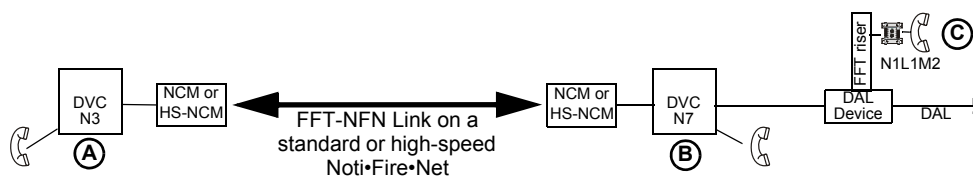

Figure B.2 FFT-NFN Communication Links Example 1
Refer to Figures B.2 and B.3 for this example.
2. The operator at (**A**) presses the point button, programmed as shown in Figure B.2, turning on the point. The point active LEDs will light steady on, and the yellow LEDs will go off. Communication is established between (**C**) and the local telephone at (**A**).
1. A firefighter jacks in at (C). Point 1 rings at (A). Both LEDs flash (green and yellow at the DVC-KD, point active and yellow at the annunciator).
2. The operator presses Point 1, turning on the point. The point active LEDs will light steady on, and the yellow LEDs will turn off. Communication is established between (C) and the local telephone at (A). If pressing Point 1 activates (C) but does not open the FFT-NFN link, the (A) and (C) point LEDs will continue to flash because the FFT-NFN link is not available.
3. Firefighters jack in at (D) and (E). Points 2 and 3 ring at (A), the point active LEDs light steady and the yellow LEDs flash. The operator at (A) presses the Point 2 and 3 buttons (either the Point 2 and 3 DVC-KD buttons or the Point 2 and 3 ACS annunciator buttons), programmed as shown in Figure B.2, turning on the points. The yellow LEDs will turn off. Communication is established between the field telephones at (C), (D) and (E) and the local telephone at (A). (A) through (E) are now in communication.